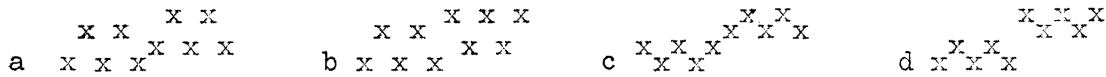
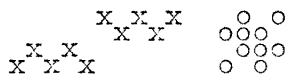
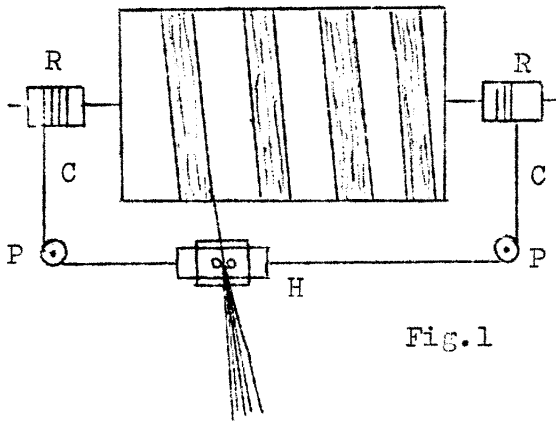
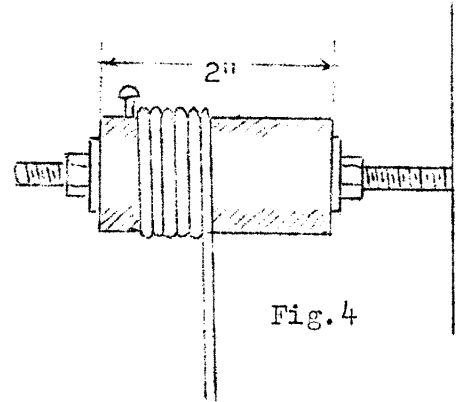

Fig.1
Fig.2
Fig. 1
Fig. 4
In the first place the student will have to understand the principle of huckaback weaves. Huck is a typical "woven-as-drawn-in" weave, where repeats of threading and treadling are identical in length and order. In practice this means that one side of the fabric is identical with the other after it is turned by 90°. The repeats can have either 6, 10, or 14 threads in both directions. Thus we have 6 x 6, 10 x 10, or 14 x 14 huckaback. The threading draft can be written in several ways (fig.1) but this does not affect the fabric in any way.
We shall use in this case the last draft (d on fig.1). The tie-up, treadling and draw-down is shown on fig.2.
The only huck which we can weave will have to be 10 x 10 of course. The draw-down is as in fig.2, but for practical purposes the tie-up should be changed, so that both feet can be used alternately (fig.4). The treadling with this new tie-up is: 1 3 1 3 1 4 2 4 2 4. Huckaback has a very peculiar texture which shows best when we look at a woven piece against the light. There are tiny slits which run on a diagonal in both directions.
In the warping reel described so far, we have already one part which will serve as a support for the "feeding" mechanism. It is the rail "D" (fig.4, page 9). The heck-block will slide on it from one end of the mill to the other, and back. This block (fig.1) is pulled by two cords (C) which go around pulleys (P) placed on each end of the rail. Both cords are wound on wooden cylinders (R) inserted on the bolts which support the rotating frame of the mill in the uprights of the base. This is why these bolts were made 8" long. The cords are wound in opposite directions, so that when the frame turns one way, the heck block is pulled to the right, and when it changes the direction of rotation, the other cord pulls the block to the left.